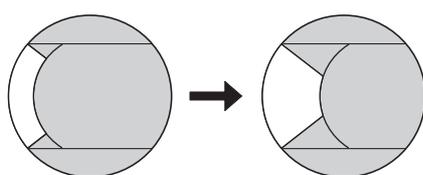

Fig. 25
1. Push in the oblique iris insertion/removal knob ①.
2. Turn the knob ① to adjust the width of the area illuminated by oblique illumination. (Fig. 25)
3. Adjust the orientation of the oblique illumination by turning the top part ② of the condenser.